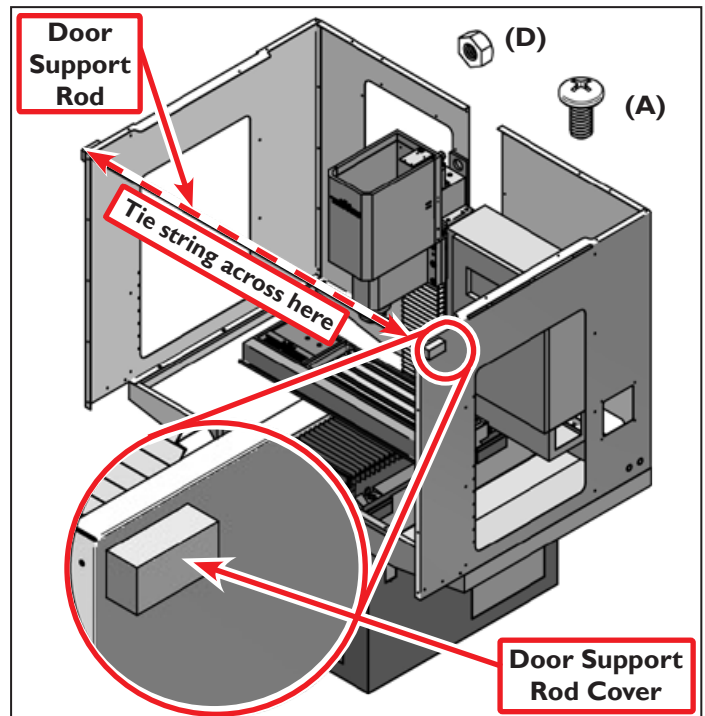

Figure 7
17. Place the Door Support Rod Cover (E.11) on the outside of the Right Side Panel (E.16) as seen in **Figure 7**.
18. Using one (A) screw, fasten the rod cover in place from the inside of the panel. Slide the Door Support Rod (E.1) into the opposite side panel (E.16) through the holes in the other Right Side Panel and into the rod cover (see **Figure 7**).
19. Place the second rod cover over the rod and on the outside of the side panel (E.16) Using one (A) screw, fasten the cover in place from the inside of the panel. The cover and rod will be removed in a later step. This aids in lid assembly later.
NOTE: Do not allow side panels to flex outward to where the rods will fall. Stretching a taut string between two side panels prevents this from happening (see **Figure 7**).
26. If you tied a string across the two side panels to prevent them from flexing outward, remove it at this step (see **Figure 7**).